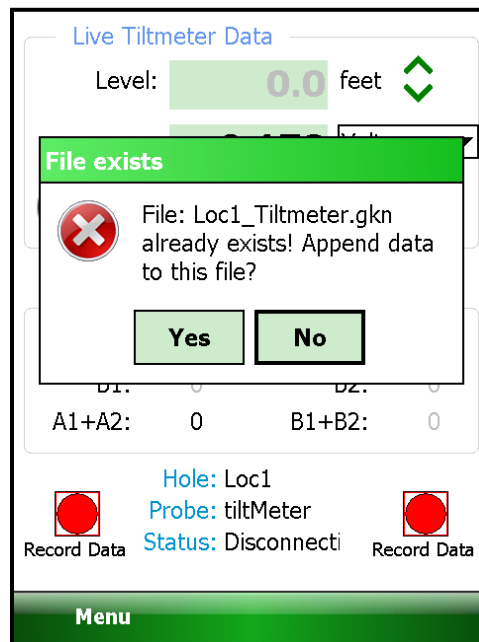

Figure 17 - File Exists Dialog
- 15) After tapping “Save” the GK-604 IRA will determine if the file exists. If this is a new file then the data will be written to it in a format similar to the standard Inclinometer format. If a file of the same name already exists then the dialog shown in Figure 17 will be displayed.